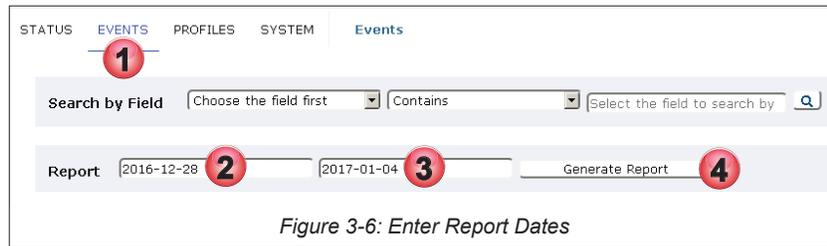

Figure 3-6: Enter Report Dates
1. Select the **Events** tab if it isn't selected already, Figure 3-6.